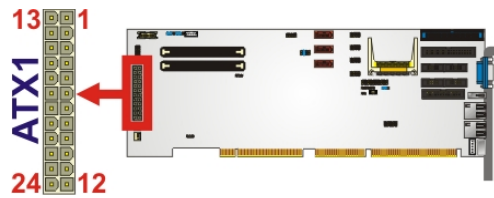

Figure 3-3: ATX Power Source Connector Location
- CN Location:** See **Figure 3-3**